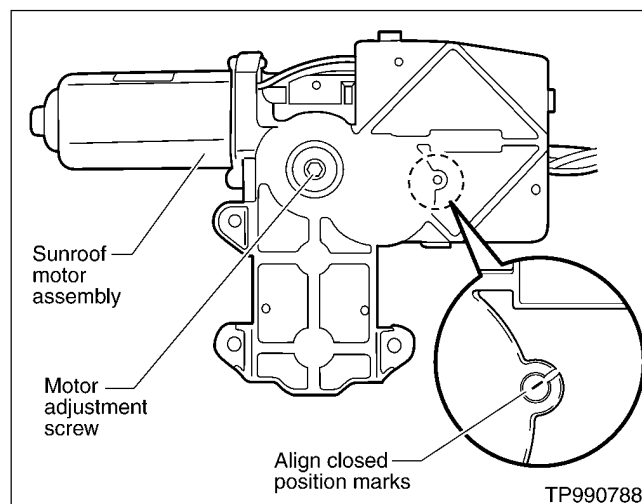

Figure 5
5. Confirm the closed position marks on the motor are lined up with each other (see Figure 5).
- B. If the closed position marks are not lined up, turn the motor adjustment screw (see Figure 5) until the marks are aligned, then proceed with step 6.